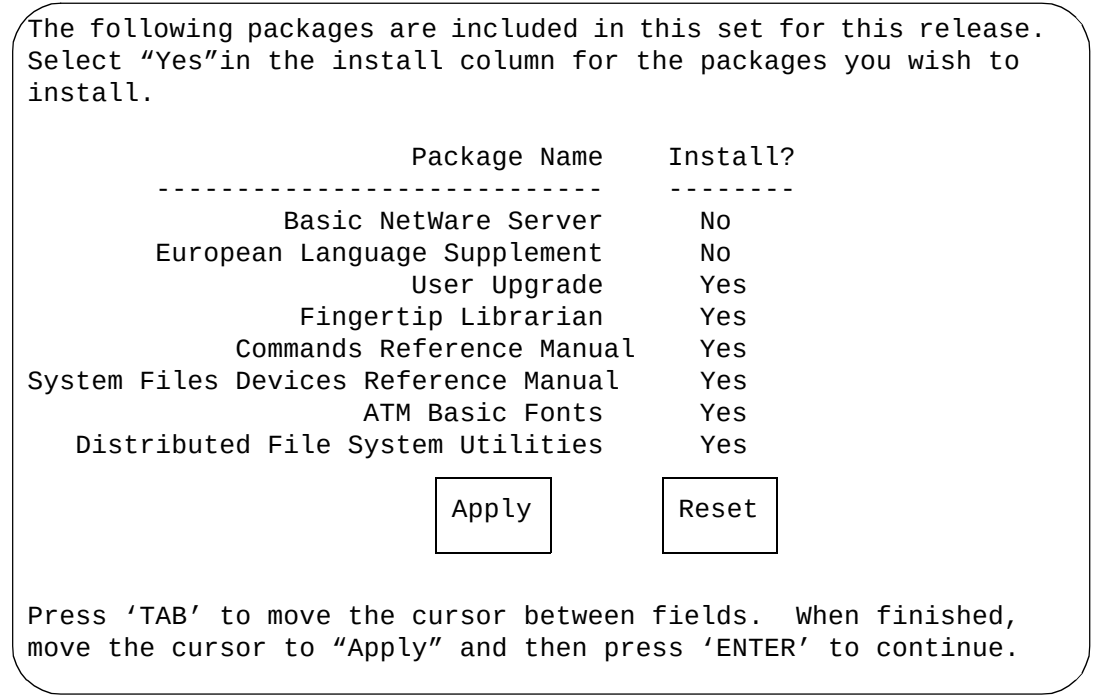

Figure 9-19. Verification Screen
The system displays another verification screen (Figure 9-19).
9. Select the packages as shown in Figure 9-19.